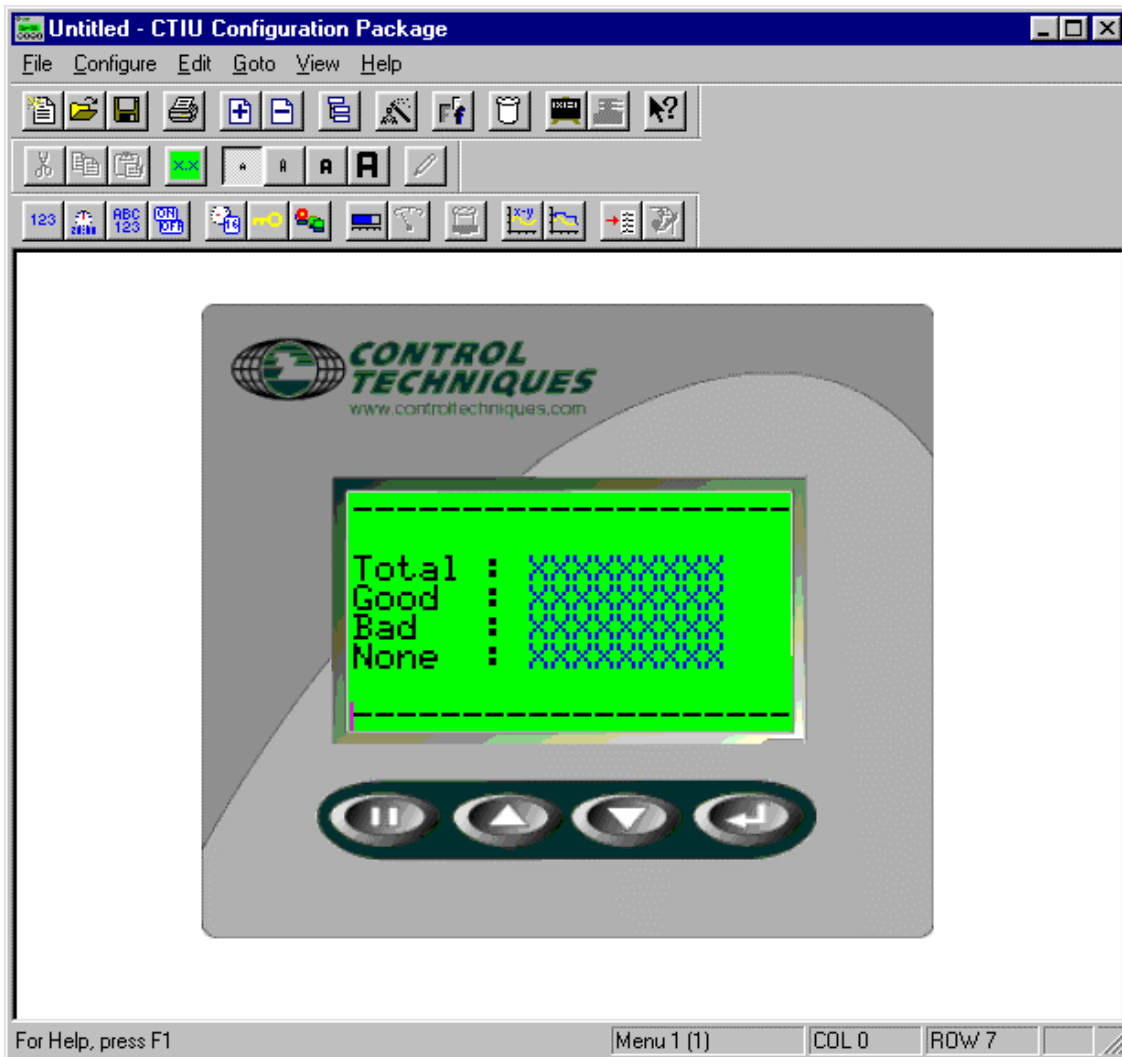

Figure 7.3 – Start-up
1. Click on the Wizards Icon  in the tool bar and choose **Comms Stats**. The display should then look like figure 7.3. Move the cursor to the line of dashes at the bottom of the screen about 5 characters in and double click, your are presented with an array of pushbuttons, click the top left one, and the dialog below should open.